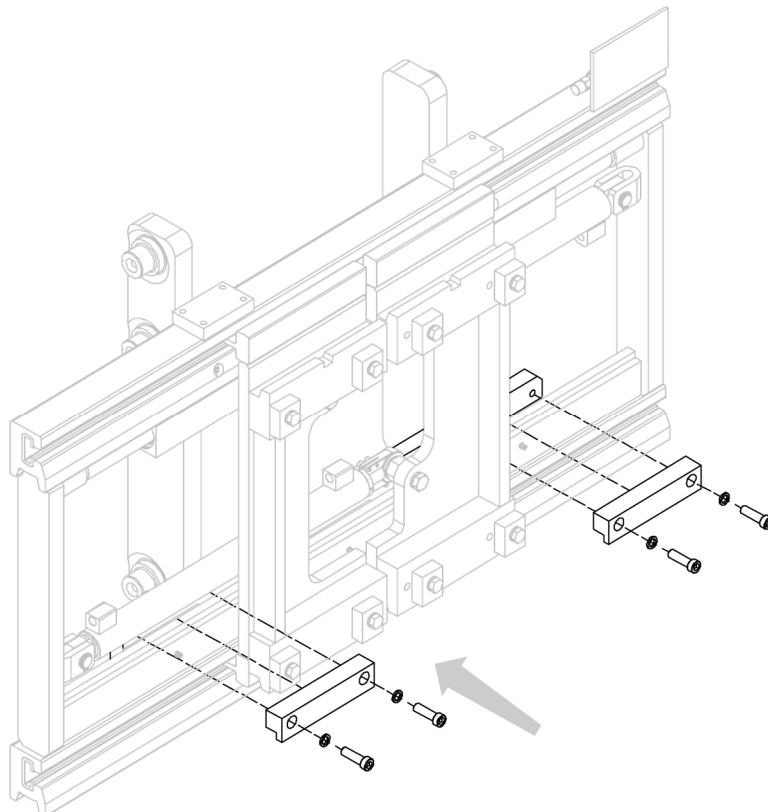

Figure 7
9. Install the lower couplings (see *Figure 7*).